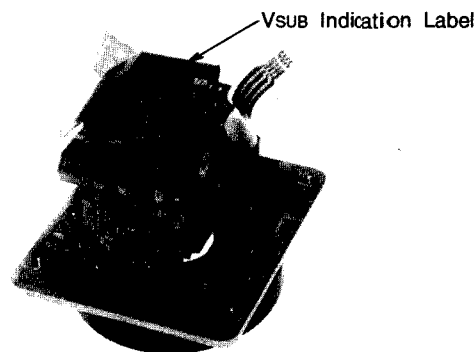

Fig. 5-1-2
- Referring to Fig. 5-1-2, check each Vsub voltage on the Indication Label of the Head Optical Ass'y.